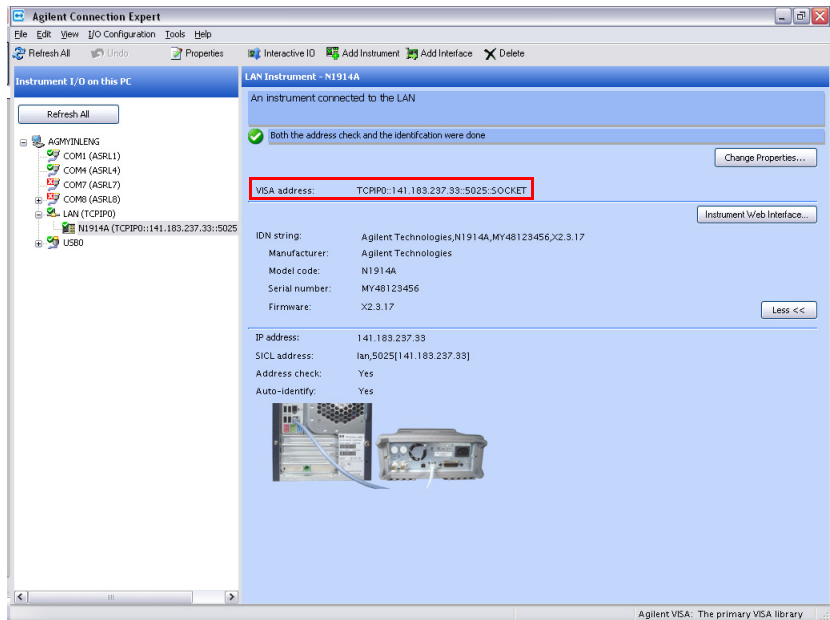

Figure 1-13 N1914A meter connected via socket connection
- 6 Click **OK**. You will then return to the Agilent Connection Expert window (see Figure 1-13). Your meter is successfully connected via socket connection.